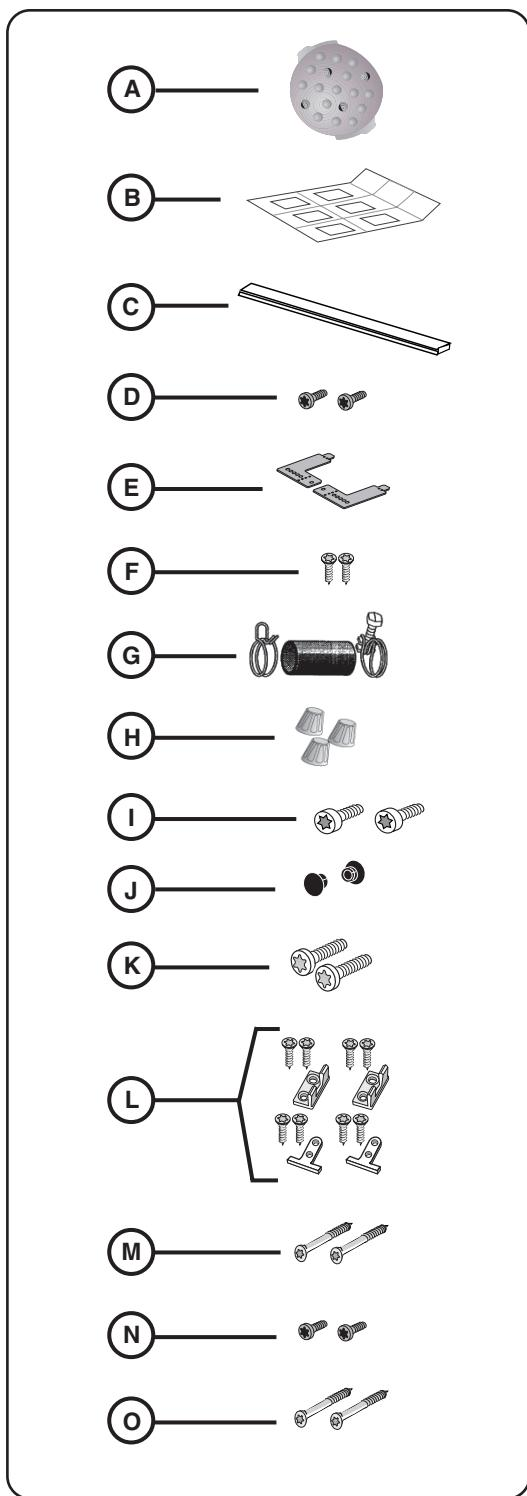

Figure 1
Accessory Parts for your dishwasher will come in one or more plastic bags. Check to make sure that the parts shown in Figure 1 are included with your model (NOTE: Illustrations are not to scale). If any parts are missing, contact your dealer immediately.
- Extra Tall Item Sprinkler (Fig. 1, letter A)
- SHI and SHV models** also have SHI/SHV Panel Installation Template Sheet (Figure 1, letter B).
- SHY66 and SHX99A models** also have a Cotton Insulation Strip (Figure 1, letter C).